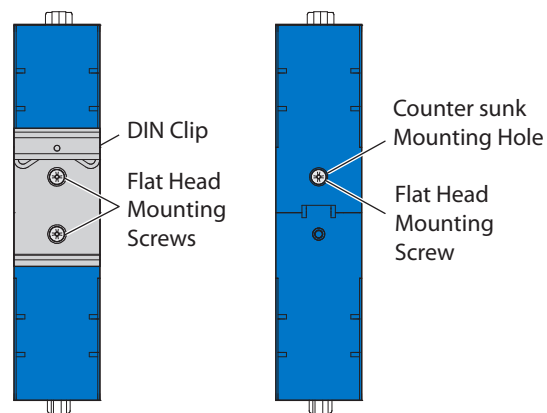

Figure 3 DIN Clip Location and Mounting Screws
- Step 1** Using a Phillips screw driver, remove the two flat head screws holding the DIN clip to the back of the unit. See Figure 3.